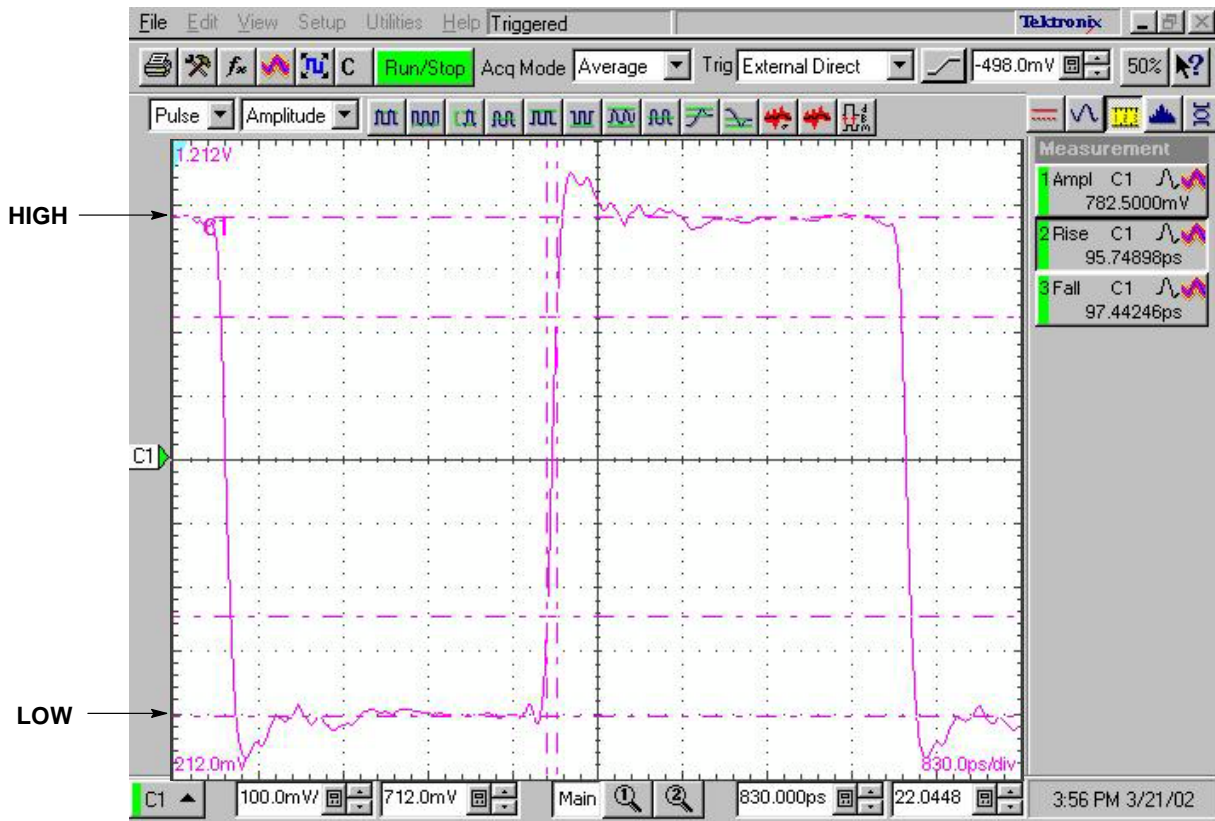

Figure 7. HIGH and LOW Waveform Levels
**Oscilloscope Averaging** – Digital sampling oscilloscopes use an algorithm to determine the average level over a pulse width to establish the HIGH and LOW levels. An example is shown in Figure 7. The horizontal cursors at the HIGH and LOW levels indicate the determined average levels.